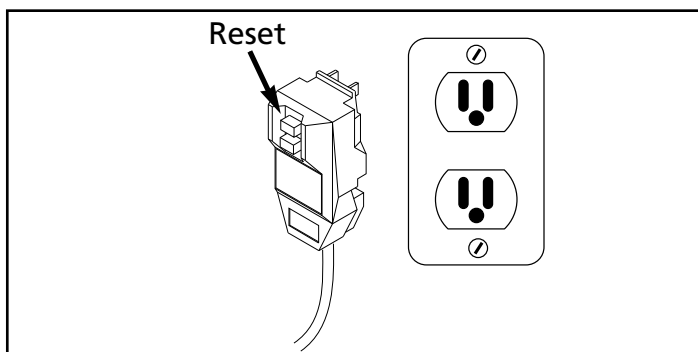

Figure 7 - Grounded plug/reset button
1. Plug the power cord into a grounded 120V outlet and press the reset button as shown in Figure 7.